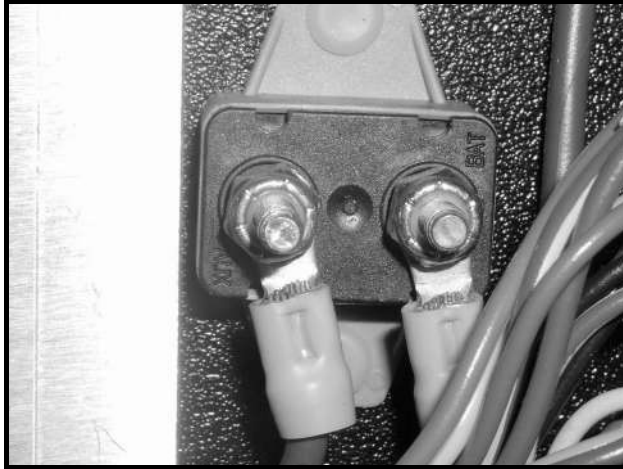

Figure 12b-5 50-Amp Circuit Breaker
4. Remove the lock nuts that secure the two 10-gauge wires to the circuit breaker (**Figure 12b-5, Page 12b-4**).
1. Secure the 50-amp fuse to the electrical component mounting plate with the two plastic fasteners (**Figure 12b-5, Page 12b-4**).